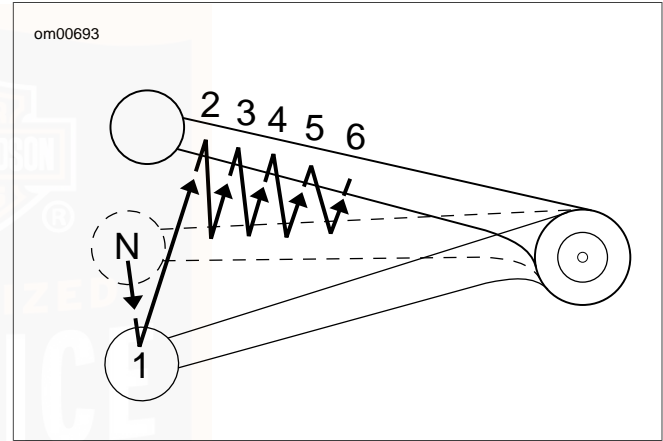

Figure 30. Upshift Pattern: Six Speed
3. See Figure 30. Lift the gear shift lever up to the end of its travel and release.